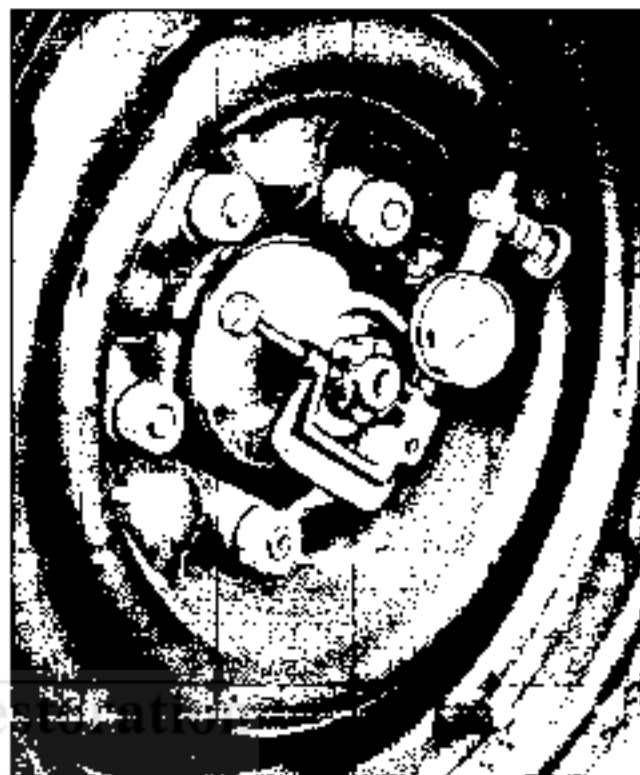

Fig. 3-2 Checking Front Wheel Bearing Adjustment
*NOTE: To check for loose bearing, mount a dial indicator to the adjusting nut (Fig. 3-2) with the indicator tail on a smooth portion of the wheel hub. Grip the tire at the top and bottom and move the wheel assembly in and out on the spindle. Movement greater than .001" indicates a loose bearing. If necessary, to inspect bearings, see **Other Repairs - Wheel Bearing Remove and Replace**.*